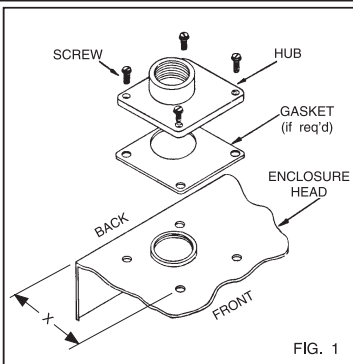

FIG. 1
3. If "X" dimension in Fig. 1 is 3 9/16" use two (2) of the four (4) screws furnished with